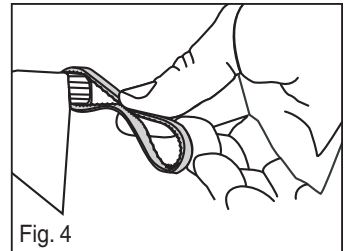

Fig. 4
- 7) Thread belt around motor shaft (Fig. 4). Place belt around the pulley of new brush roll.
- 1) Unclip sides and clear blockage in opening and hose (Fig. 4).